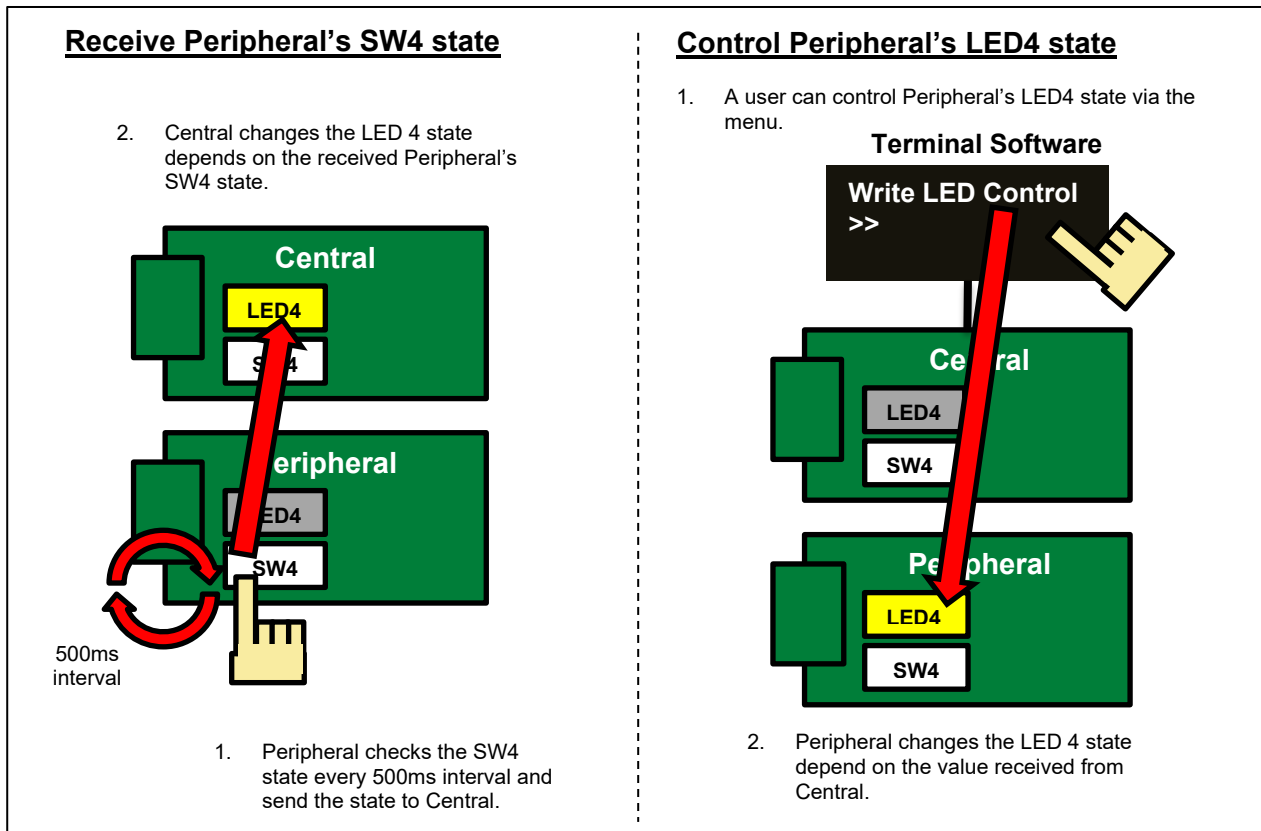

Figure 2-3 Peripheral Device Control
- **Write switch state cccd**: In this menu, it can enable or disable the notification of Peripheral. Write 1 for the enable, write 0 for the disable. The notification is implemented with SW4 PUSH/RELEASE state in Peripheral. When the notification is enabled, the Peripheral checks its SW4 state either PUSH or RELEASE for every 500ms interval and send the current state to Central. With respect to the notified SW4 state from Peripheral, Central changes its LED4 ON/OFF state. See left side of Figure 2-3 for this operation. CCCD is an abbreviation of Client Characteristic Configuration Descriptor. This characteristic descriptor has Unauthenticated pairing permission, thus when an access is executed before pairing established, the access causes Error. When Central receives the error, it starts pairing. Passkey is displayed on Peripheral terminal software, then a user properly input the passkey to Central terminal software, pairing established and the communication encrypted. Security information exchanged between Central /
- **Write led control**: In this menu, it does control Peripheral's LED4 ON/OFF state from Central. Write 1 for the enable, write 0 for the disable. See right side of Figure 2-3 for this operation.